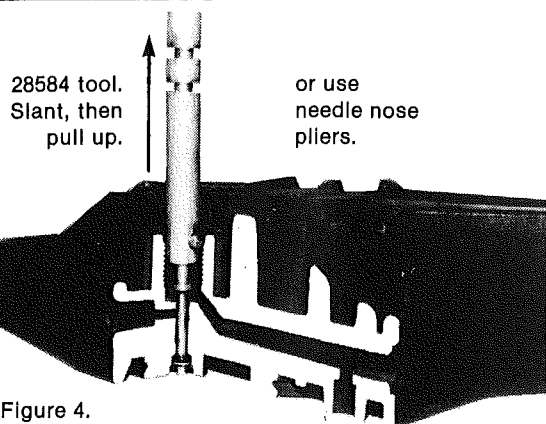

Figure 4.
2. Remove spring and 27375 pilot stem (figure 4).